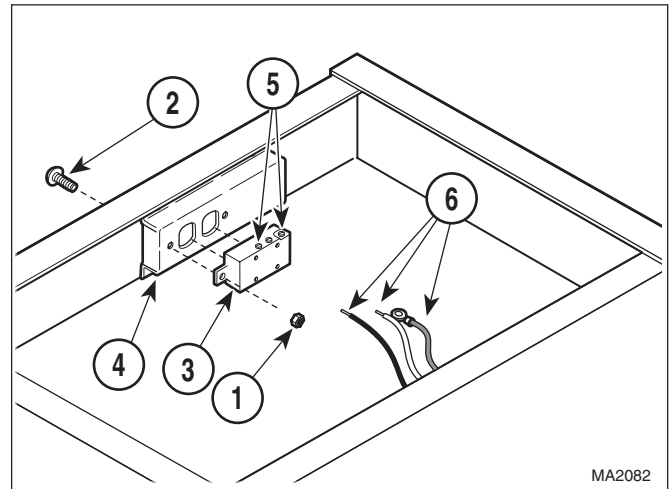

Figure 4-8. Rear Receptacle Removal / Installation
- (2) Remove two nuts (1, Figure 4-8) and screws (2).
- (3) Pull rear receptacle (3) from receptacle panel (4).
- (4) Loosen three screws (5); then tag and disconnect three wires (6) from rear receptacle (3).